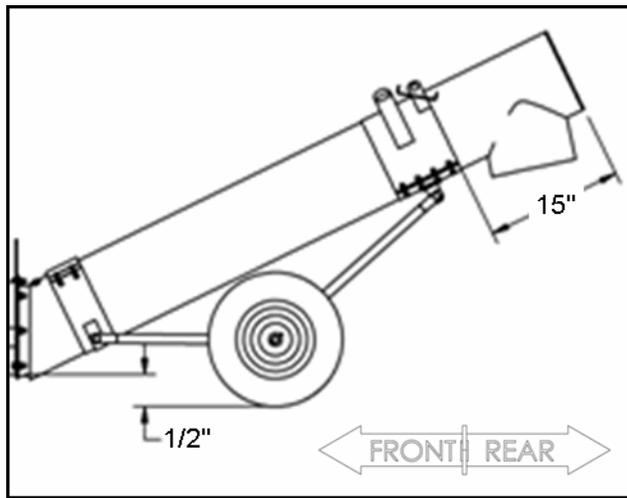
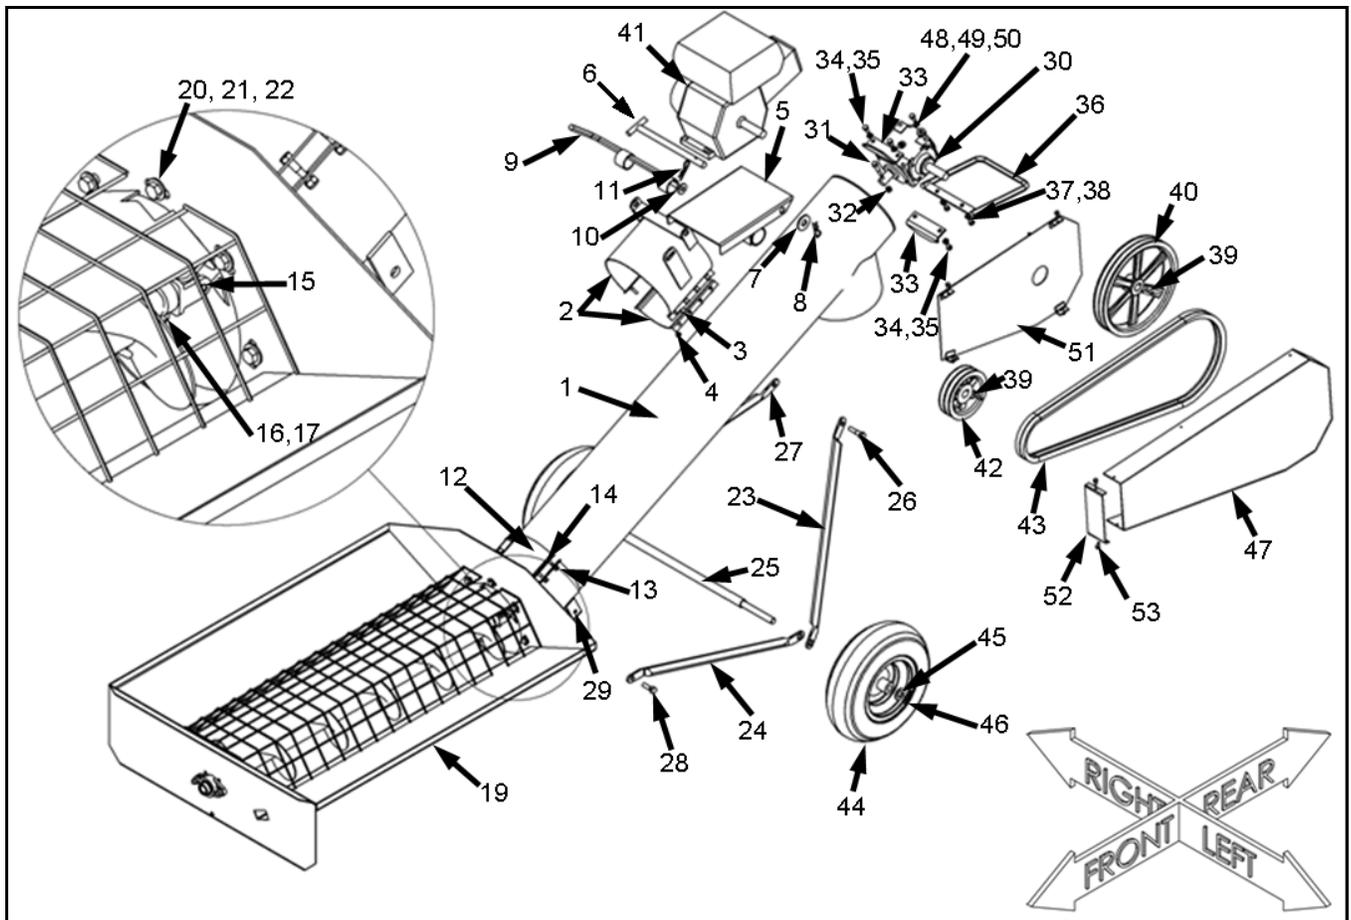
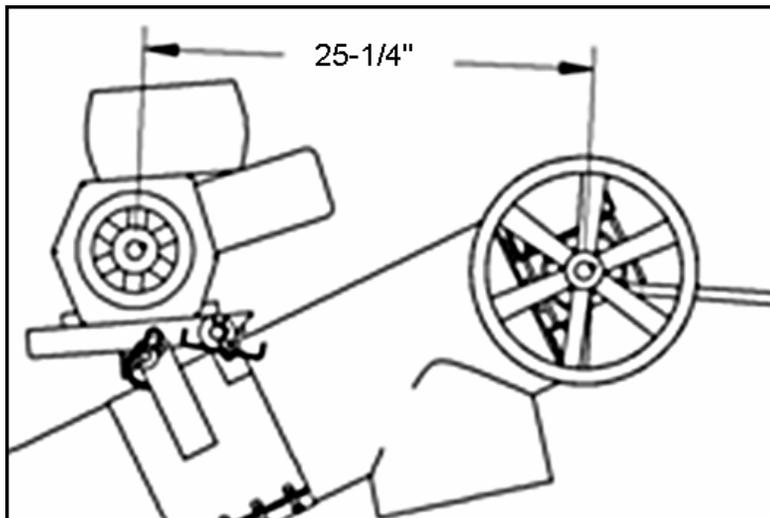

Figure 3.1 Side View of Assembly
Figure 3.2
Figure 3.4
Refer to Figure 3.1, 3.2, 3.3, and 3.4 for assembly of Transfer Augers with gas drives.
1. Secure spout (1) on stands to aid in assembly.
2. Attach motor mount top and bottom clamps (2) to tube (1) 15" from the spout (see Figure 3.1) using eight 5/16" x 1-1/4" bolts (3) and locknuts (4). Use a level to ensure mount is parallel to the ground before tightening.
3. Position plate (5) on motor mount (2) using pin (6), 3/4" flat washer (7), and hairpin (8) to secure in place.
4. Insert tightener pin (9) in mount and secure with 1/2" flat washer (10) and hairpin (11).
5. Remove spout (1) from stands.
6. Couple upper and lower flighting together with a u-joint (15) and secure each side with a 3/8" x 2-1/4" bolt (16) and locknut (17) (Figure 3.2 and 3.3).
7. Attach upper tube (1) to hopper bottom (19) with seven 7/16" x 1-1/4" bolts (20), flat washers (21), and nuts (22).
8. Attach upper (23) and lower (24) support tubes to axle (25) by sliding over axle shaft.
9. Mount each tire and rim (44) on axle and secure with cotter pin (46) and flat washer (45).
10. Attach upper support tubes (23) to motor mount bottom clamp (2) with two 1/2" x 2" bolts (26) and locknuts (27).
11. Install wheel frame clamp top and bottom (12) to lower end of tube (see Figure 3.1) with four 5/16" x 1-1/2" bolts (13) and locknuts (14). Do not tighten.
12. Attach lower support tubes (24) to wheel frame clamp (12) with two 1/2" x 1-1/2" bolts (28) and locknuts (29).
13. Adjust the position of the lower wheel frame clamp so that the back of the hopper is elevated ~1/2" from the ground (see Figure 3.1). Tighten bolts and nuts.
14. Install the gearbox (30) on the auger shaft and secure with a 3/8" x 2" (31) bolt and locknut (32).
15. Mount transport handle (36) to the bottom of the gearbox (30) with 3/8" x 3/4" bolts (37) and lock washers (38).
16. Connect bottom bracket (33) to gearbox (30) with 3/8" x 3/4" bolts (34) and lock washers (35).
17. Place two washers (50) on gearbox (30) and mount top bracket (33) and guard back plate (51) on gearbox (30) with three 3/8" x 3/4" bolts (34,48) and 3/8" lock washers (49).
18. Insert 1/4" x 1-1/2" key (39) on exposed gearbox shaft (30), and mount pulley (40) on gearbox shaft.
19. Insert 1/4" x 1-1/2" key (39) on motor shaft (41) and mount 3.5" pulley (42) on shaft.
20. Rotate tightener pin (9) as far as it will freely turn so that the handle points in the direction of the hopper.
21. Place the gas engine (41) on the motor mount (5), and using a level or straight edge, align the ends of the gearbox (30) and motor (41) shafts.
22. Adjust the motor position so that the center of the shafts are approximately 23"-25" apart. Refer to Figure 3.4.
24. Install the B-70 belts (43) provided. The belts should deflect 1/2" to 3/4" when pushed on with a 5 lb force. If they do not deflect properly, remove the clamps and belts, adjust the position of the motor, and re-align. Repeat this step until the belt tension is adequate. Remove the c-clamps or vice grips when finished.
26. Attach guard front cover (47) and end cover (52) to backplate (51) with six self-tapping screws (53).